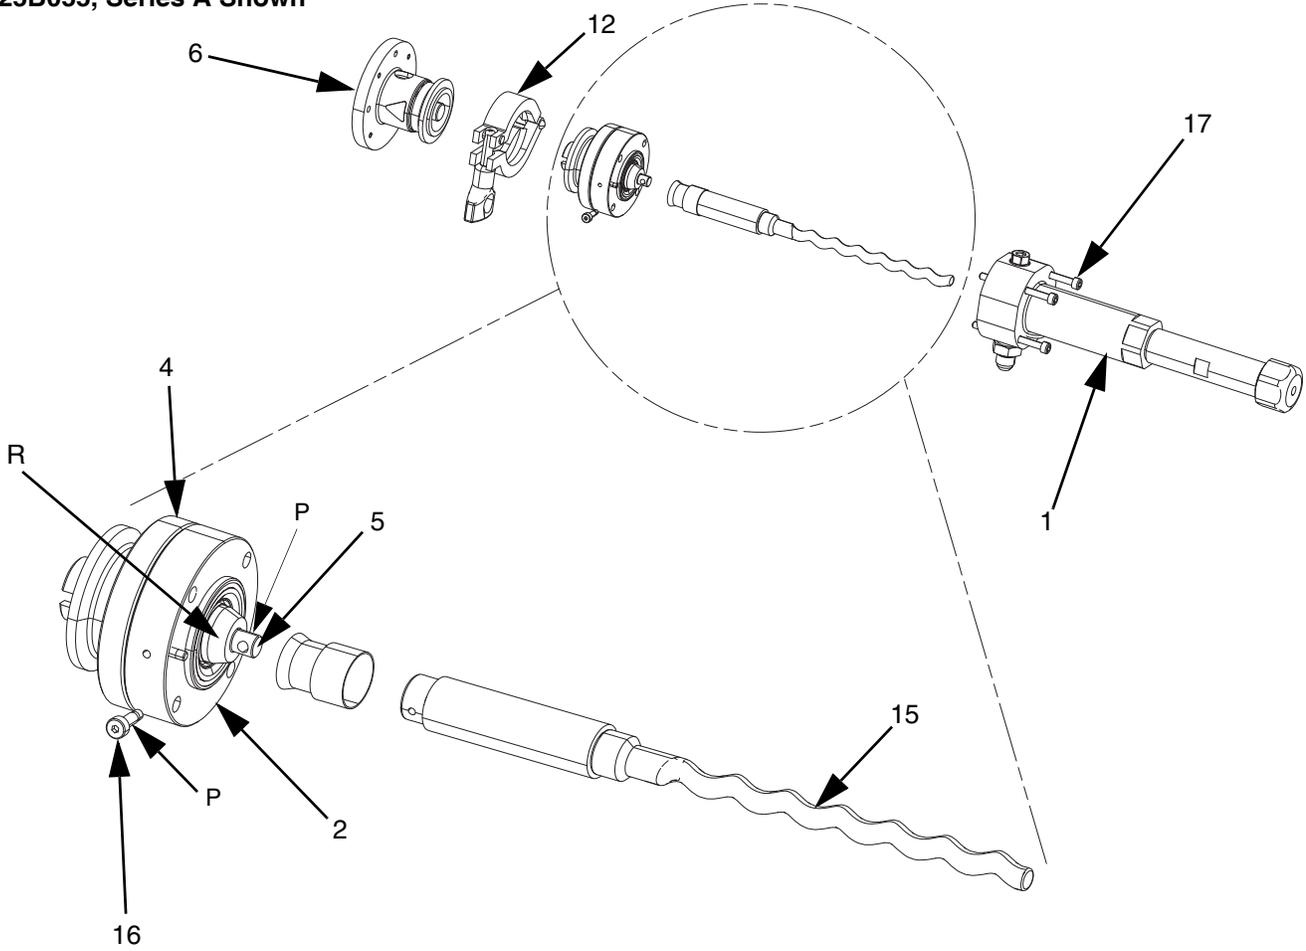

FIG. 6
1. Ensure the rotor assembly (15) and shaft (5) are clean before reassembly.
2. Apply a strip of removable strength blue adhesive to the indicator lines (P) on the shoulder bolt (16) and the end of the rotor (15) as shown in FIG. 6.
3. Tighten the shoulder bolt (16) to 9-10 in-lbs.
4. Slide the protective sleeve (33) into place. Do not allow it to extend beyond the end of the taper (R). Shrink the sleeve with a heat gun using a maximum temperature of 250° F (121° C).